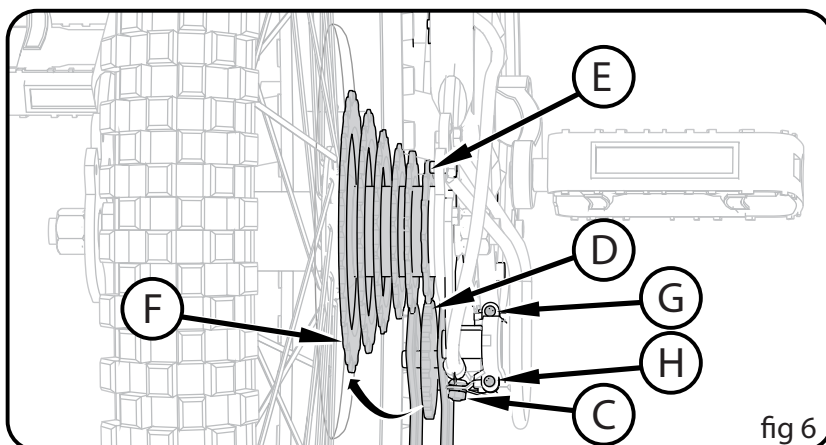

fig 6
- Turn the “high” adjusting Screw **G** so the Jockey Roller **D** is in line with the outside edge of the smallest rear Sprocket **E** (**fig 6**)